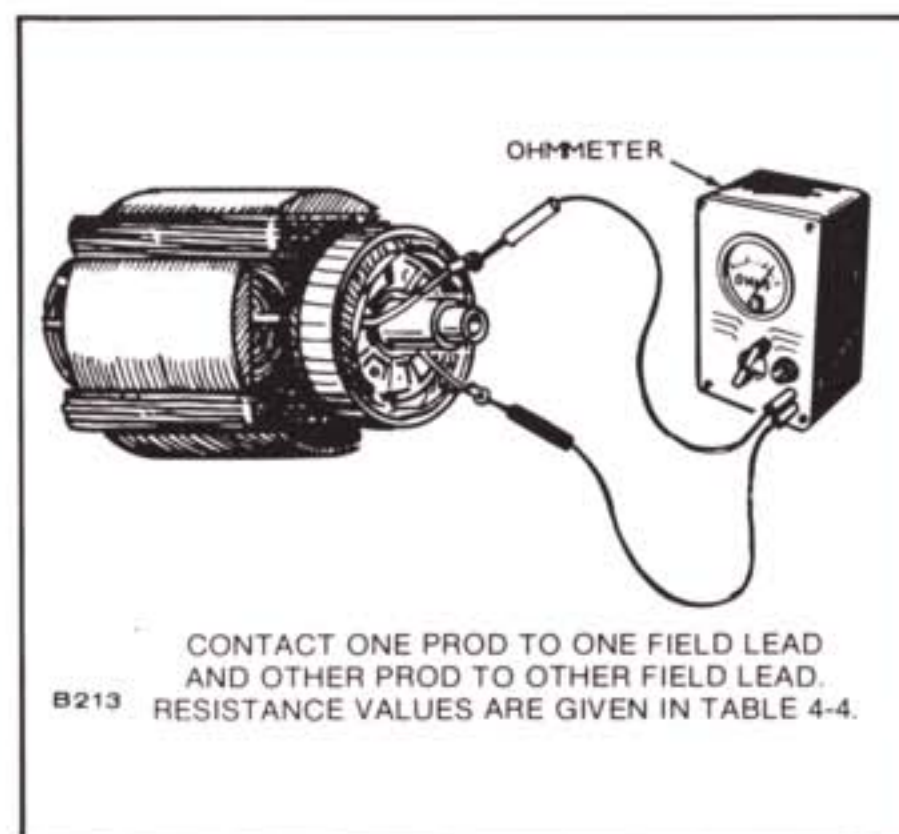

FIGURE 4-30. TESTING ROTOR FOR AN OPEN CIRCUIT
2. Using ohmmeter, check resistance between F¹ and F² leads, Figure 4-30. See Table 4-4 for proper resistance values.